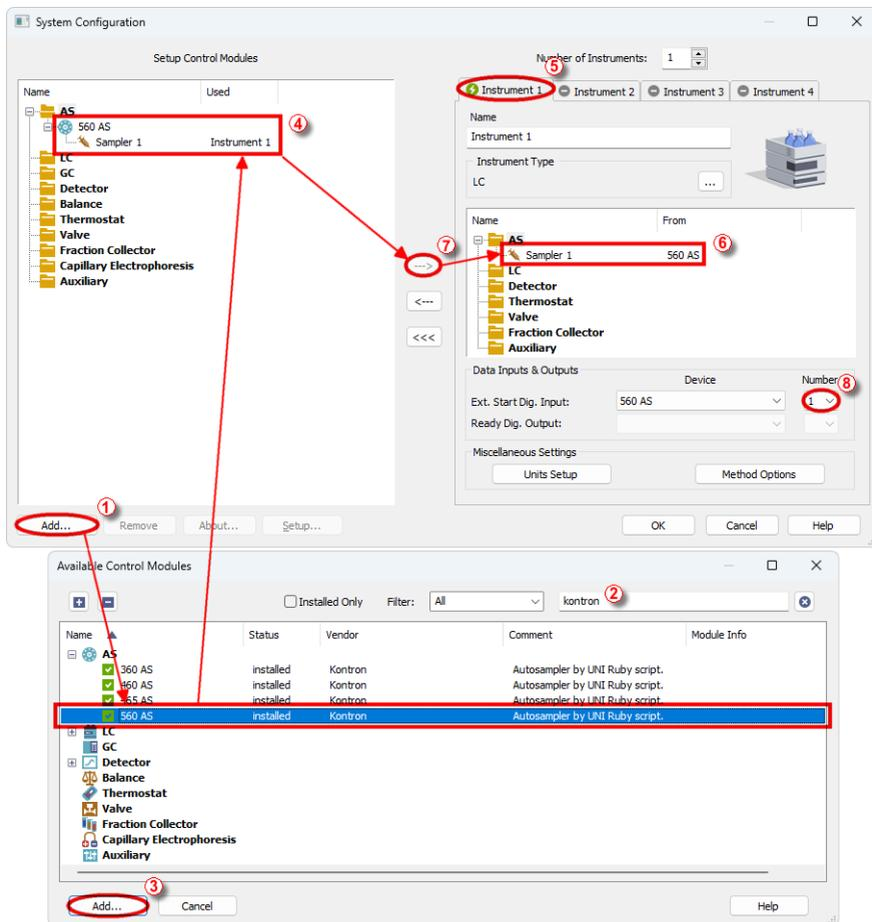

Fig. 3: How to Add Kontron 360/560 module
- Press the *Add* button (1 on Fig. 3 on pg. 4.) to invoke the *Available Control Modules* dialog.
- You can specify the search filter (2) to simplify the finding of the driver.
- Select the correct item and press the *Add* (③ on Fig. 3 on pg. 4.) button. Each device with already created UNI profile should have its own item named accordingly in the *Available Control Modules* dialog.